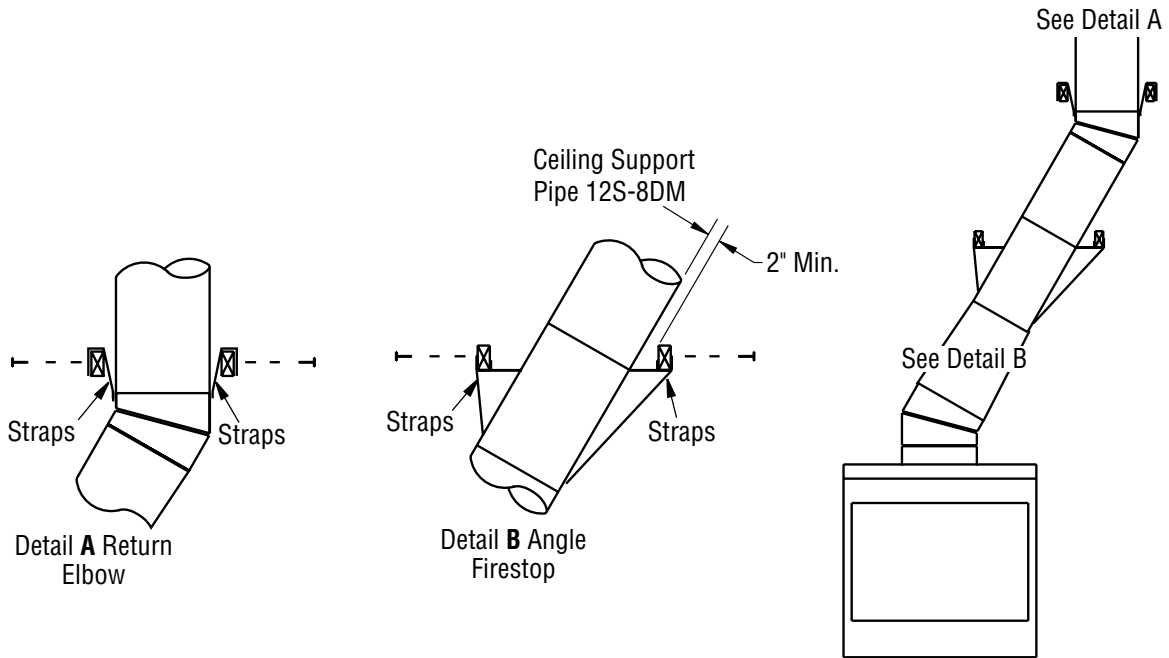

Figure 11 - Ceiling Support Pipe 12S-8DM
2. Chimney weight above offset rests on return elbow. Straps must be securely nailed to rafters or joists (see **Figure 11, details A and B, Page 9**).